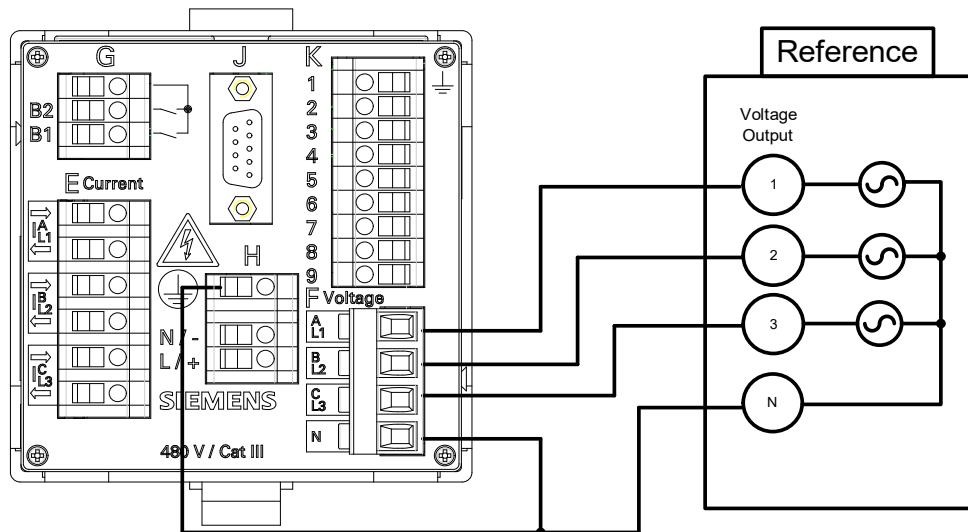

Fig. 10-1 Measurement Setup for Calibrating the AC Voltage Measuring Range
Calibration is only possible with symmetrical phases ($3 \times 120^\circ$), see figure 10-1.
- ✦ Set up the measurement as shown in figure 10-1, depending on the device variant.